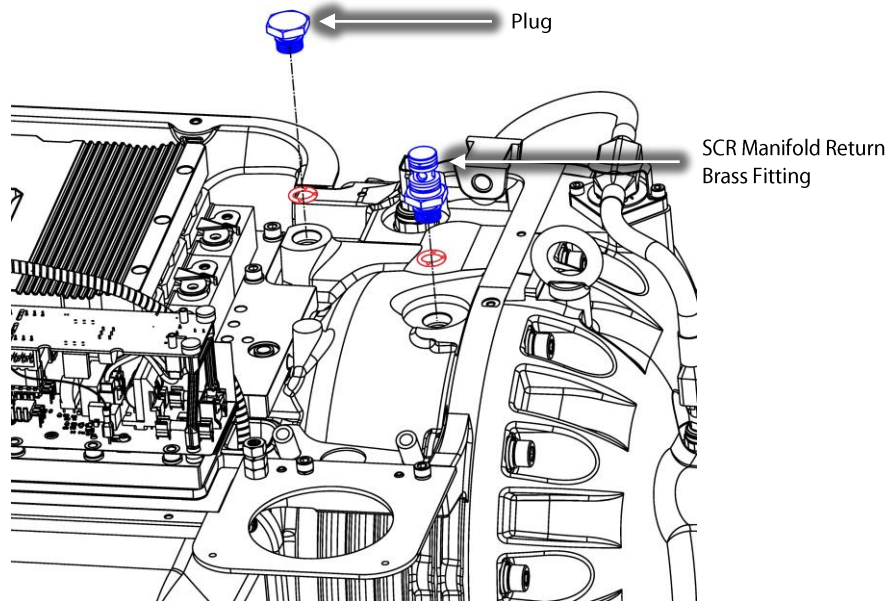

Figure 4 – Plug and SCR Manifold Return Brass Fitting Removal
3. Remove the Plug and the SCR Manifold Return Brass Fitting. Refer to Figure 4 – Plug and SCR Manifold Return Brass Fitting Removal.